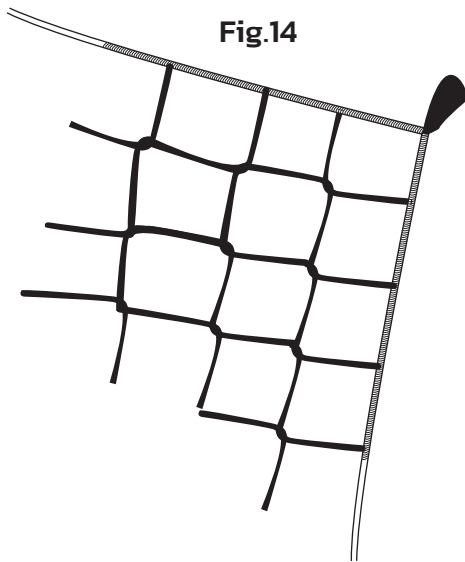

Fig.14
Step 14 – Net. (Fig.14, fig.14a, & fig.14b)
Place the net over the frame, noting that the red tabs denote the top corners of the net as per (fig.14.)